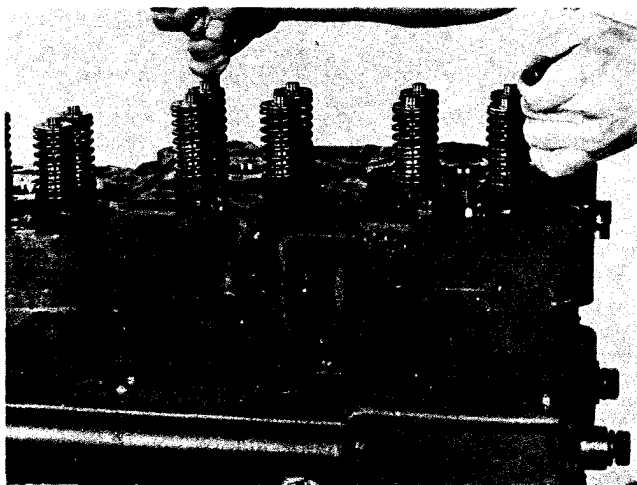

Fig. 0-26, (N100151). Removing cylinder head
1. Remove cylinder head capscrews in opposite order of torquing sequence and lift each cylinder head assembly from cylinder block. Fig. 0-26. See Page 0-10.